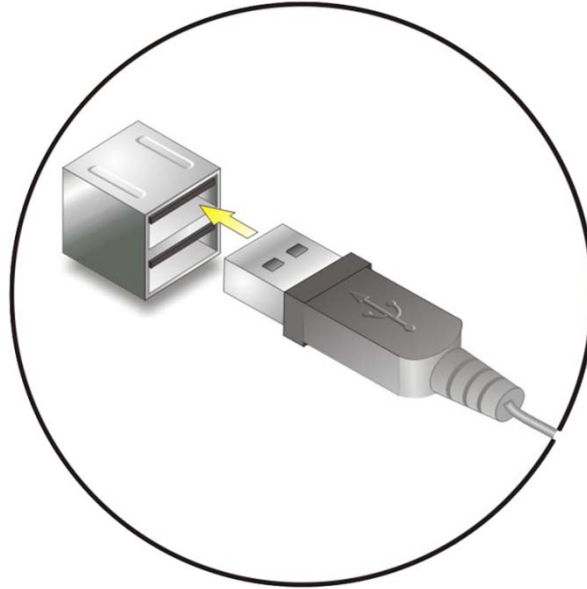

Figure 7 – USB Device Connection
Step 2: Align the USB device connector with one of the connectors (see Figure 7).